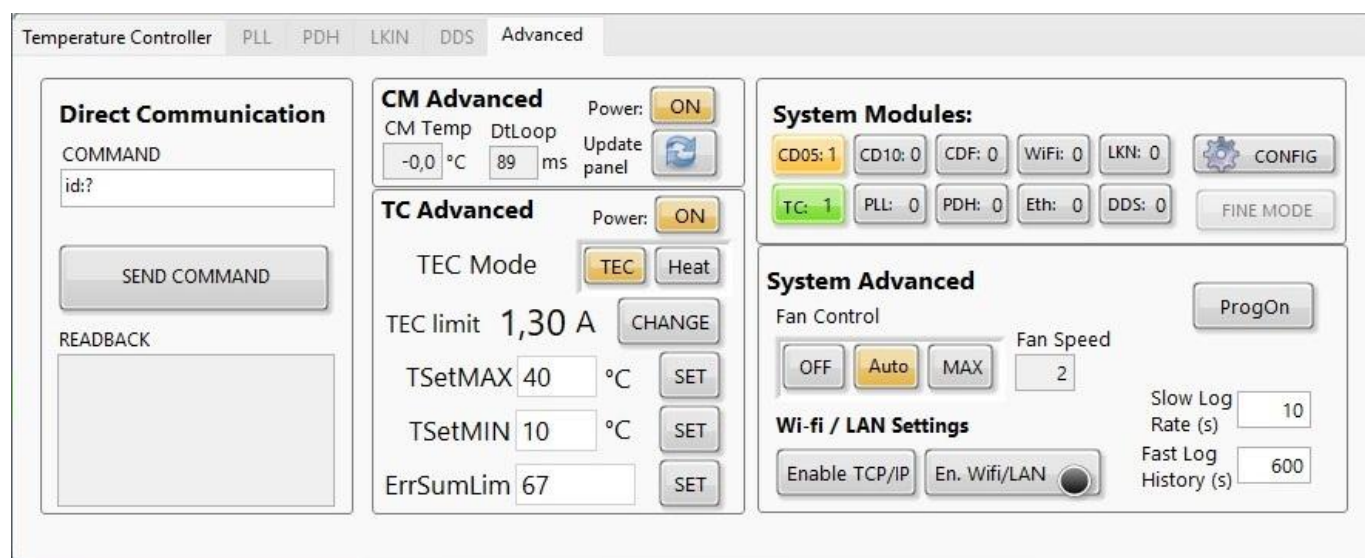

Figure 13: The QubeCL_Control software Advanced tab
- In the TC Advanced section of the Advanced **tab**(Figure 13), that can be found in the lower panel, use the **TEC limit** control to set the **maximum current** that the TC controller may source to the Peltier stage. To do so, you must press the correspondent **CHANGE** button.